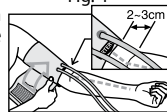

Fig. 5
3. Wrap the cuff around your upper arm so that the bottom of the cuff is approximately 2-3 cm above your elbow. The sign “ARTERY” should be over the arm artery as shown in the fig. 5.